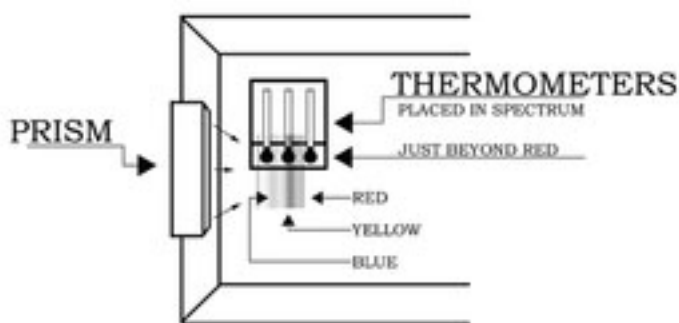

Figure 3
7. After the prism is secured in the notch, place the thermometers in the shade if you are working outdoors or simply away from your artificial light source if you are working indoors. Record the ambient air temperature. Then place the thermometers in the spectrum such that one of the bulbs is in the blue region, another is in the yellow region, and the third is just beyond the (visible) red region (as in Figure 3). Note: Depending on the position of the prism relative to the light, the colors of the spectrum may be reversed from what is shown in the figures.